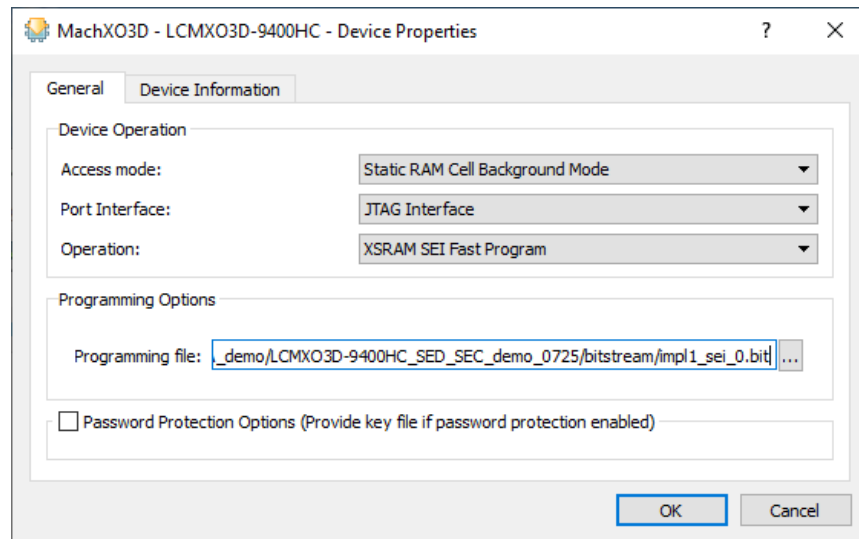

Figure 6.8. Set MachXO3D Device Properties
- Set device properties as shown in Figure 6.8.
Loading SEI Bitstream in Background and Detecting Inserted Error	Updated Figure 6.8 .